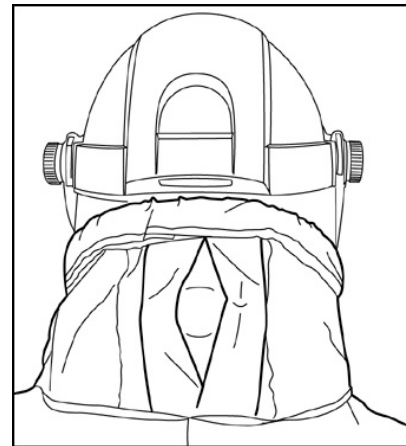

Fig. 24: Outer Shroud fabric insert
- Hold the shroud so the small fabric insert faces toward the rear of the headgear. (Fig. 24: This fabric insert allows you to grasp the ratchet knob that adjusts the size of the suspension.)